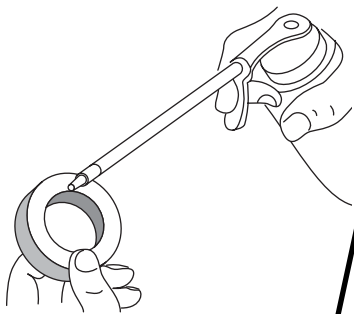

Fig. 17
4. Apply enough clean SAE 30 oil to lightly coat the filter (Fig. 17).